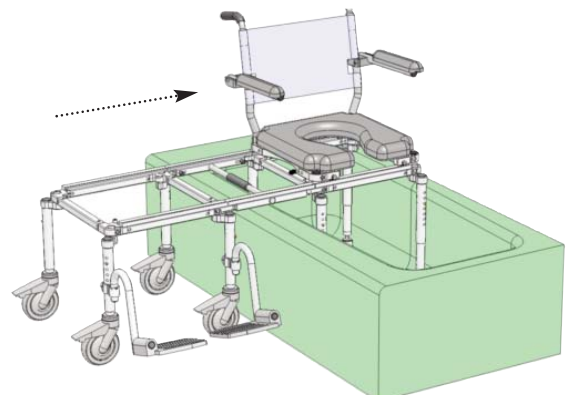

Figure 16
**F** Release the latch mechanism on the roll-in section and slide the slider seat assembly onto the tub section, making sure the latch engages fully and locks in place. If the roll-in section and tub section are not level in height or out of alignment, the slider seat assembly will not function correctly and safely. To ensure the safety of the user, make adjustments to both sections as needed and retry Step F (Refer to Figure 16).